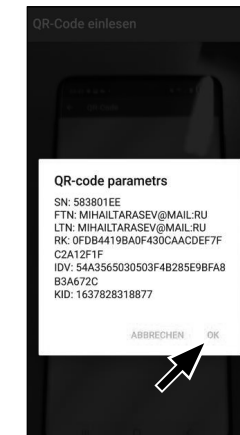

Fig. 43
- ③ A message appears containing data about the KeyApp on smartphone B, confirm this with "OK" at the bottom right (Fig. 43).